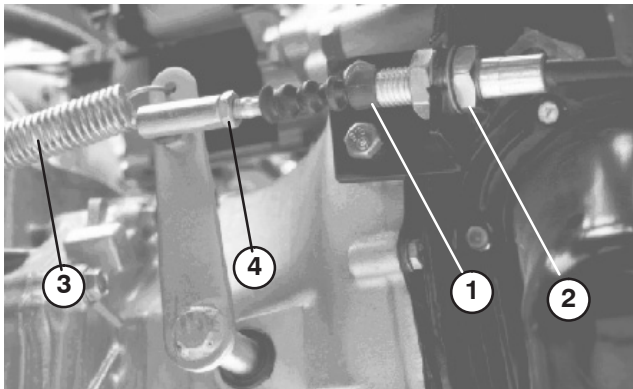

Figure 45
1. Loosen jam nuts securing clutch cable to bracket on bell housing (Fig. 45).